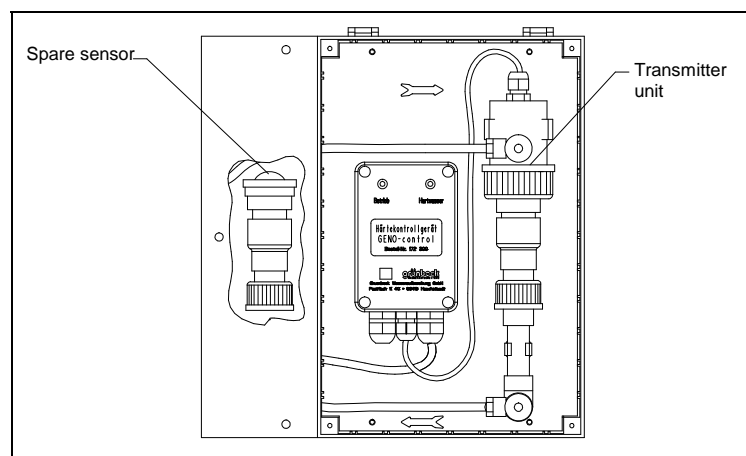

Fig. 2: GENO®-control spare sensor
- Unscrew screw connections and replace sensor (spare sensor refer to fig. 2).